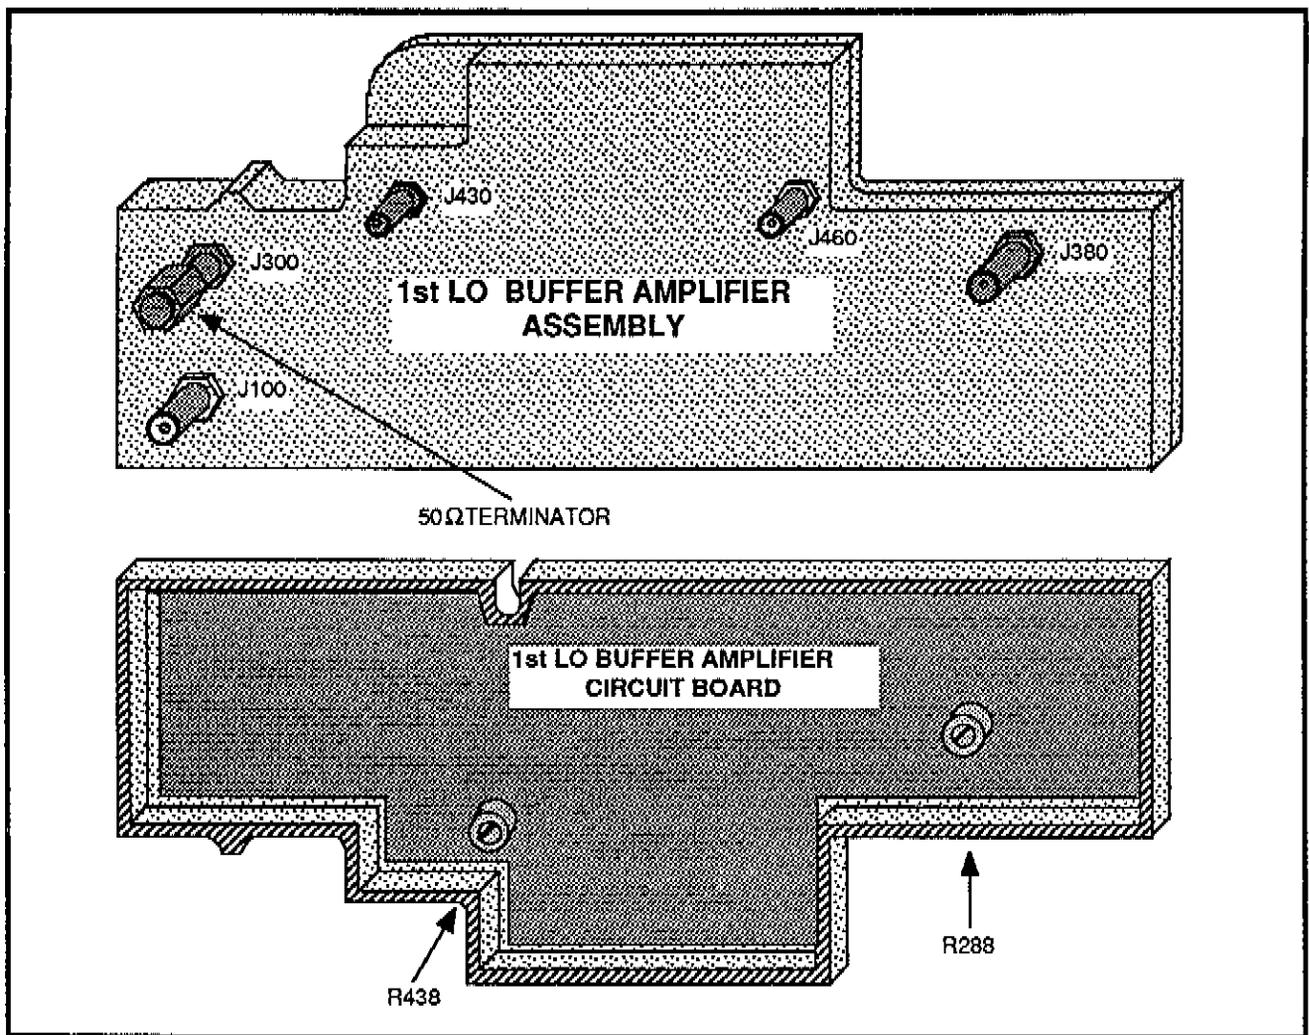

Figure 5-14. RF connectors and adjustments in the 1st LO Buffer Amplifier assembly.
- e. Reconnect the 1st LO output cable and the Strobe Output cable (from the Center Frequency Control assembly) to J100 and J460 respectively on the 1st LO Buffer Amplifier assembly. See Figure 5-14.